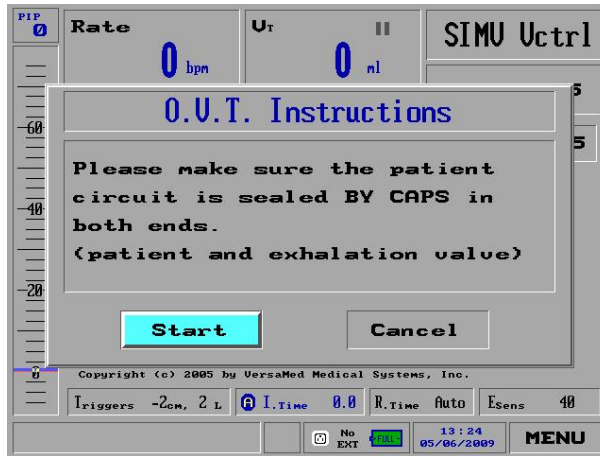

Figure 29: The Initial O.V.T Pop-Up Window
2. Press the Control Knob until you hear a click. The **O.V.T. Instructions** pop up window appears (Figure 29).